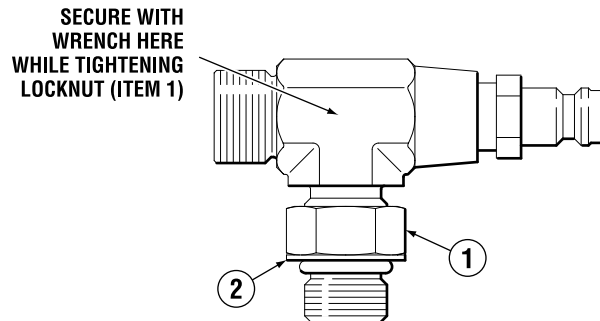

Figure 5-19. Re-orientable hose fitting.
1. Back off lock nut (item 1 in figure 5-19) counter-clockwise, until it stops.
2. Thread fitting into the cylinder port until the fitting washer (item 2) contacts the face of the cylinder port. Tighten hand tight. DO NOT USE A WRENCH.